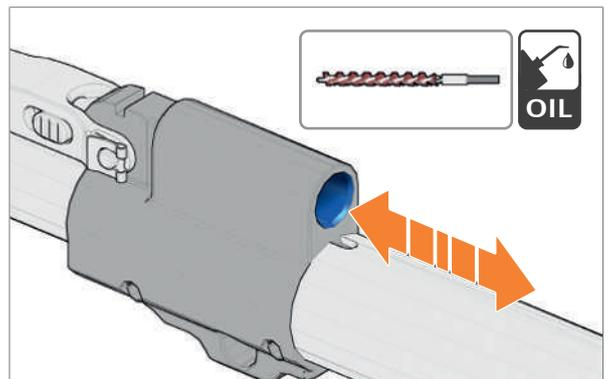

Fig. 114: Clean gas port
8. Clean inside of gas port with barrel cleaning brush (Fig. 114).